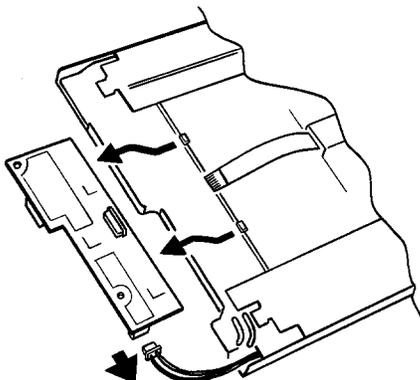

Figure 4.13.1j Circuit board removal (2)
- Taking all necessary precautions against static discharge, gently work the circuit board out, carefully avoiding damaging any of its components. Disconnect the illumination tube connector (figure 4.13.1j).